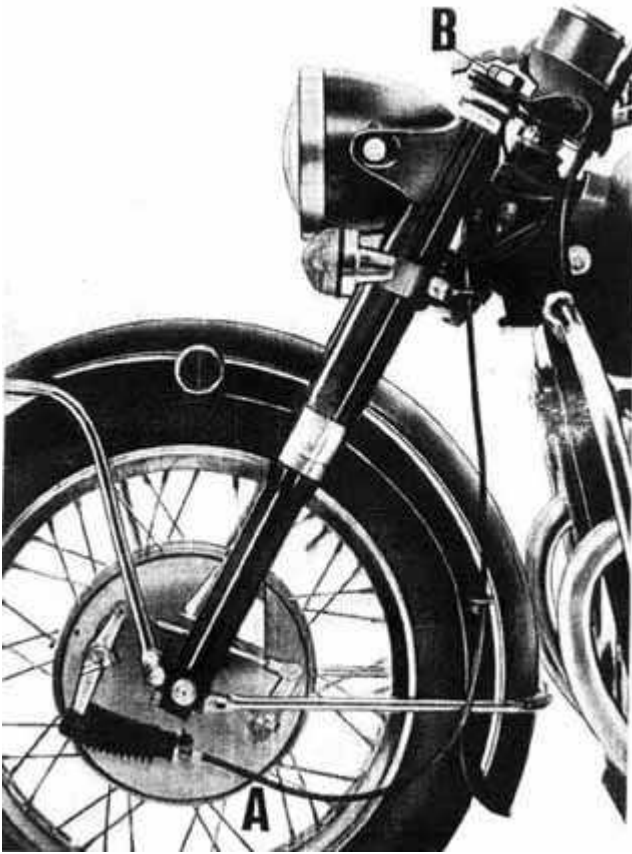

Fig. 15
**Lubrication of front fork and hydraulic dampers** (See fig. 15)